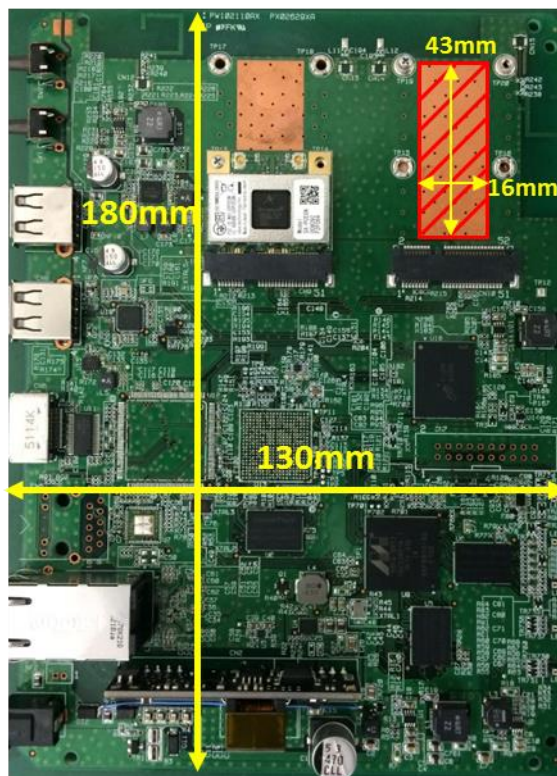

Fig 1 The baseboard AP-500AC
- PCB size : 180mm X 130mm (refer Fig.1)
- Thermal dissipation pad size : 43mm X 16mm (refer Fig.1)